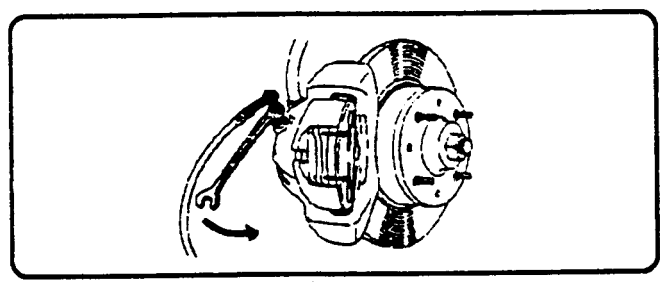

fig. 3
4. Place the rubber pipe over the brake nipple and release the nipple (fig 3).